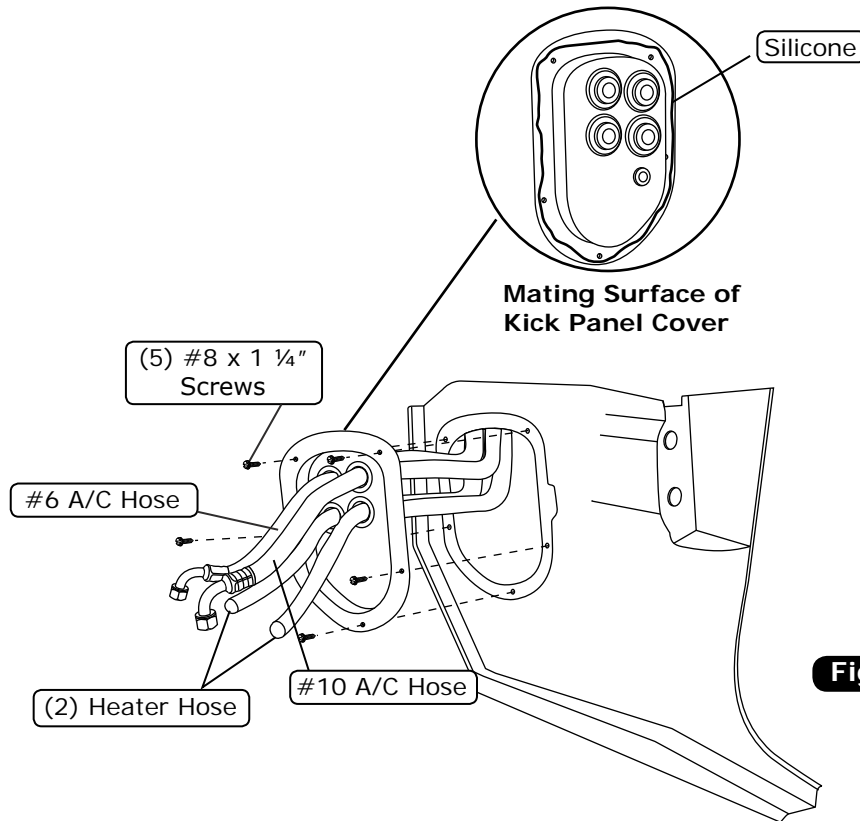

Figure 1
2. Apply 1/4" bead of silicone around the back side of the kick panel cover as shown in Figure 1, below.
3. Secure the kick panel cover using (5) #8 x 1 1/4" screws as shown in Figure 1, below.